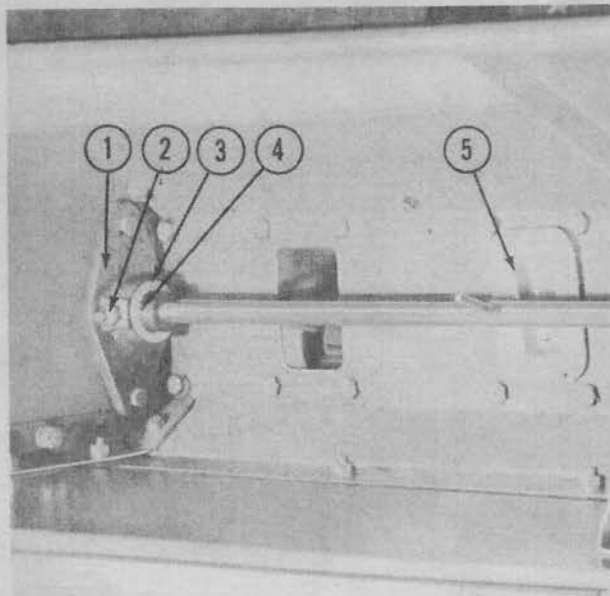

Fig. 28 - Grain Agitator Installation
4. Before inserting agitator in the grain box, install bearings on shaft. Left-hand bearing which has the larger hole is shown at No. 1, Fig. 28, and which has a pin hole drilled in it. Be sure washer, No. 3, Fig. 28, is placed on left end of shaft before bearing.
If the drill is to be used for row crop seeding, stops are available to cover the feed runs not required. The stops are made of polyethylene plastic material and snap firmly into place in the top of the grain run, see No. 5, Fig. 28.